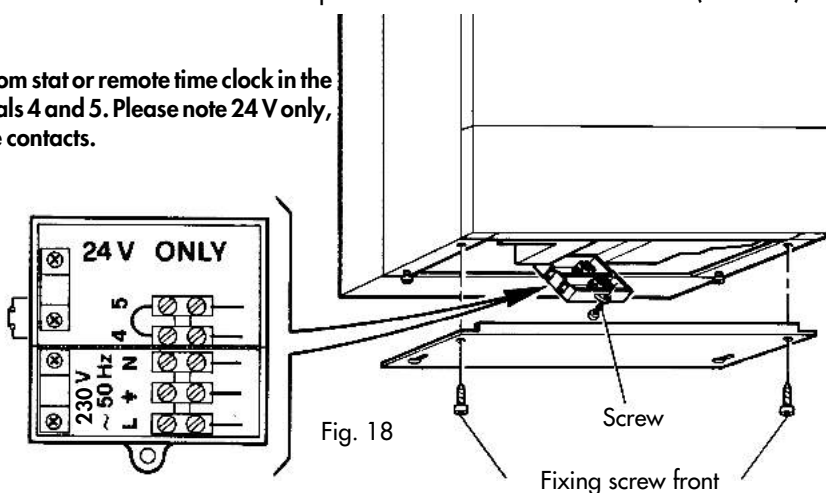

Fig. 18
Electrical installation must be carried out by a competent electrician. The appliance is to be connected to a 240 V ~ 50 Hz supply (see fig. 18). The supply fuse rating is 3A. The terminals are accessible after removing the white base plate and single screw securing the terminal cover (see fig. 18).
- 7.2 **Room Thermostat** (fig. 18) (or remote time clock connection)